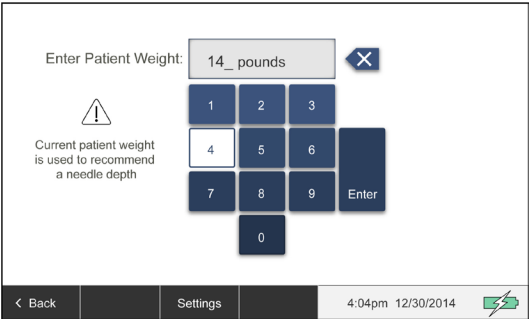

Figure 41 Patient Weight
3. Enter the Patient Weight then press *Enter* (see Figure 41).